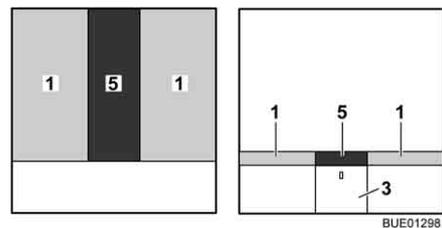

Fig. 109 After conversion
- Place the additional cushion (Fig. 109,5) between the mattresses (Fig. 109,1).